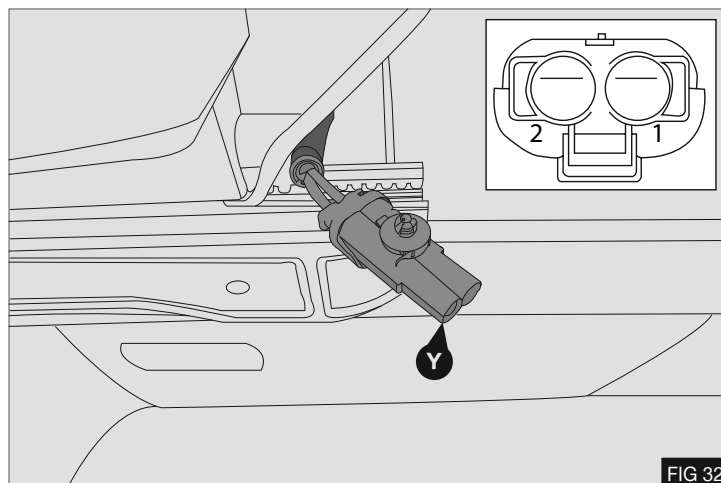

FIG 32
8. The manufacturers provide a +12V battery power supply for use with auxiliary component wiring via a 2-way connector . This connector is located beneath the drivers seat - Fig 32